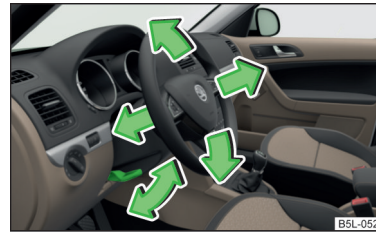

Fig. 104
- Swivel the lever underneath the steering wheel downwards » Fig. 104.